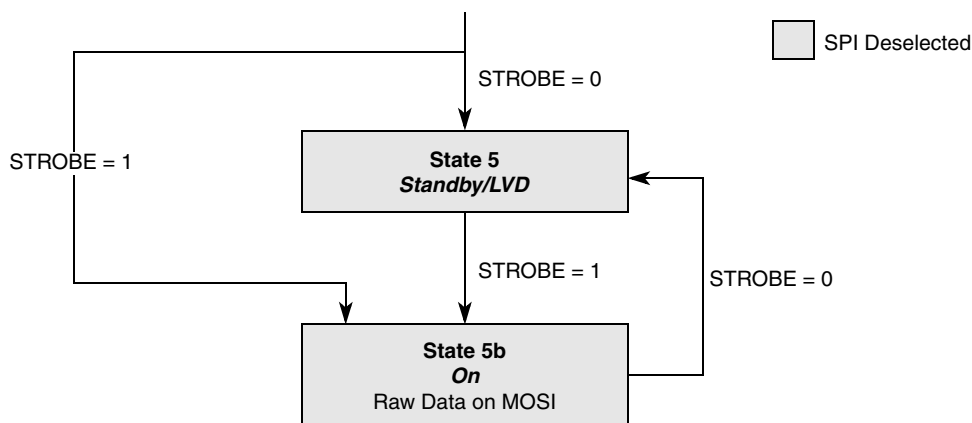

Figure 3. Receive Mode, DME = 0, SOE = 0
- External signal and internal conditions: see Figure 3 and Figure 12 for information on how to enter standby/LVD mode
Raw received data is sent directly on the MOSI line. Figure 3 shows the state diagram.